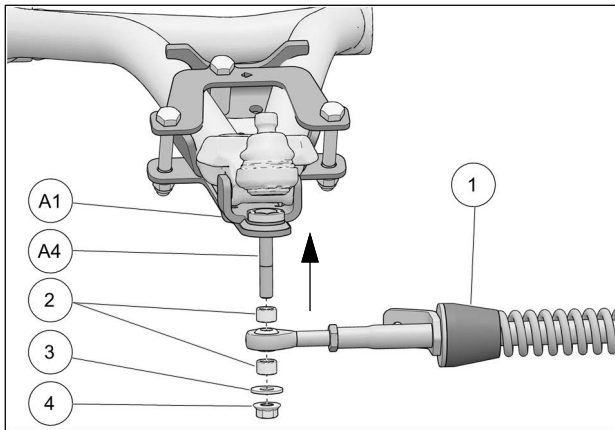

Fig. 21
11. Attach the stabilizing rod (2) to the anchor bracket (1), using the two spacers (3), washer (4), and nut (5). Torque to 70 Nm [52 lb•ft]. Refer to Fig. 21